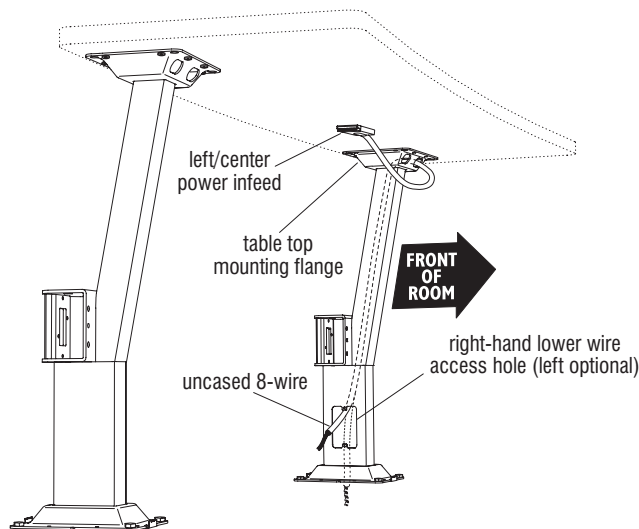

Figure 11a - Left or Center Power Infeed
30. Refer to the space-planning layout and determine if the 8-wire power infeed is to be a "right", or "left/center" configuration. Choose the appropriate power infeed configuration and run the 8-wire end first through the correct wire upper access hole of the top mounting flange of the base, then down through the base and out the bottom of the base (for under-floor connections) or through the lower wire access hole in the base (Figure 11a or 11b).